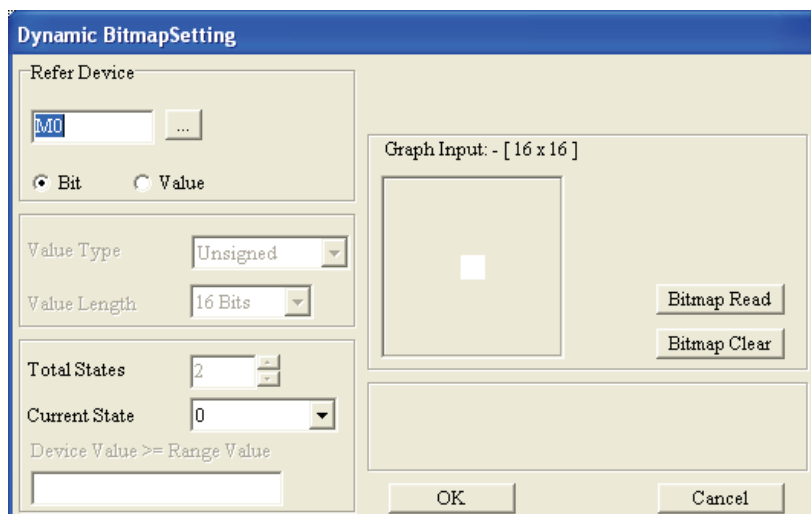

Figure 1-75
Step 2. Double-click the square  by using the mouse, a Dynamic Bitmap Setting tab will appear to let the users select the Refer Device as Bit or Value (Figure 1-75).